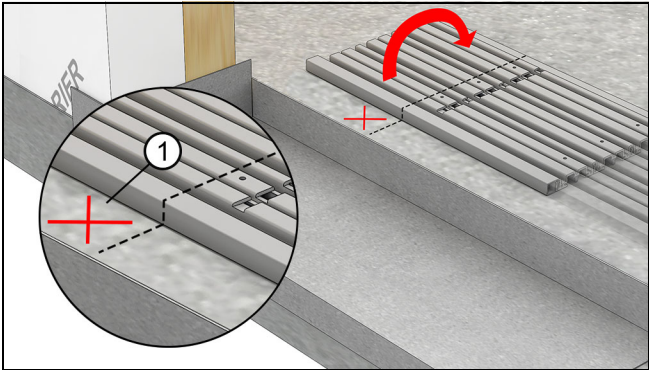

Figure 5
2. Temporarily place the HP **sill** component next to the opening. Mark the location of the holes on the RO subsill. This will help you locate the counter-shims. See Figure 5.